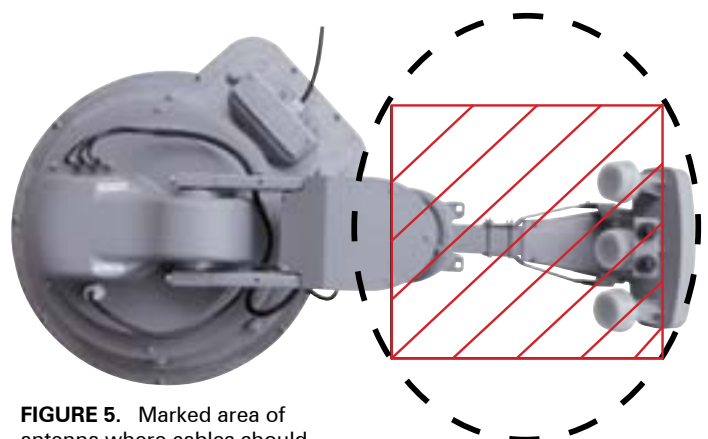

FIGURE 5. Marked area of antenna where cables should not be run
5. Wires should not be run through the striped area (see fig. 5). Anything in the striped area will interfere with the operation of the TRAV'LER antenna and may cause damage to the object or to the antenna.